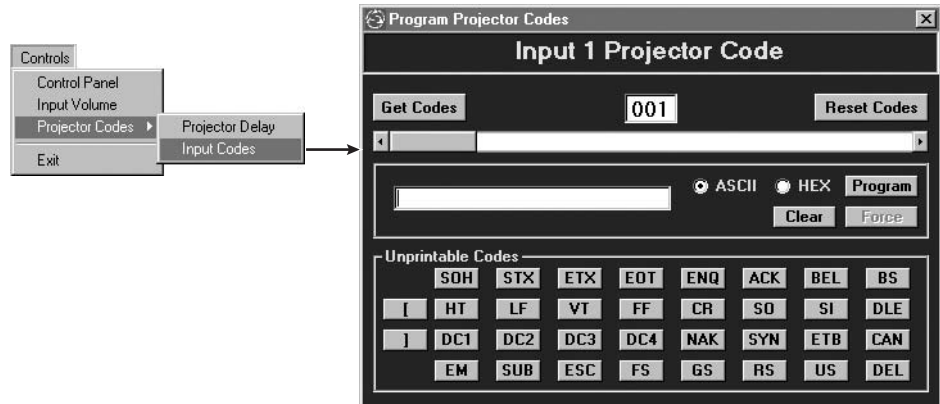

Figure 4-7 — Program Projector Codes window
1. Click *Controls > Projector Codes > Input Codes*. The Program Projector Codes window appears (figure 4-7).